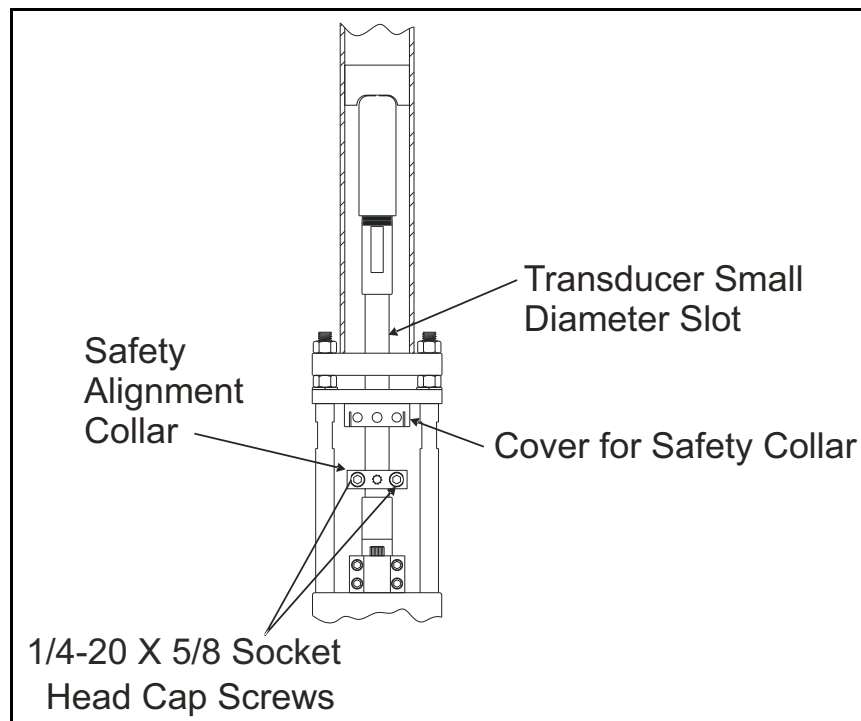

Figure 26: Attaching the Collar to the Transducer Barrel
3. Using the socket head cap screws, loosely attach the safety alignment collar to the barrel of the transducer (see *Figure 26* below).